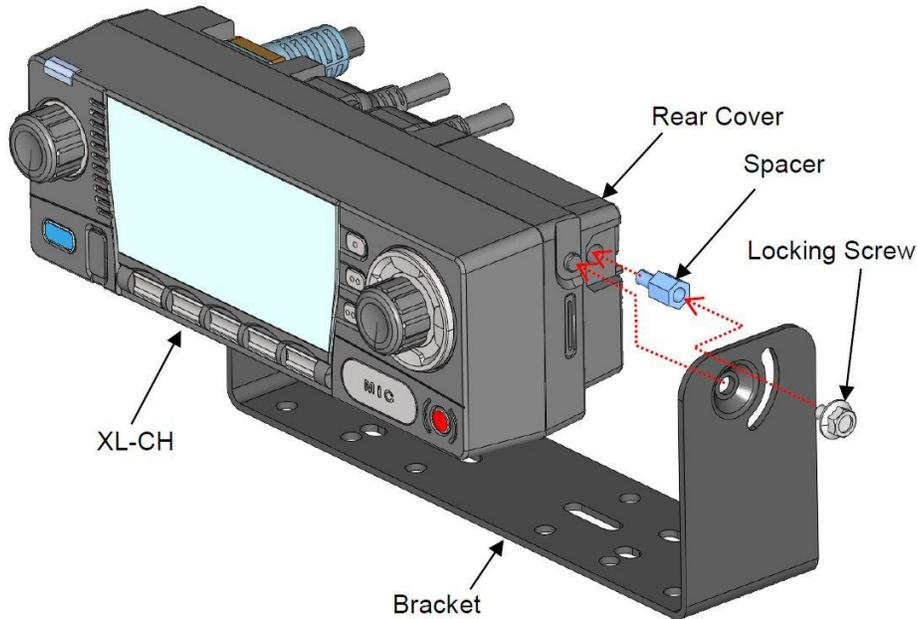

Figure 9-9: Install the XL-CH into the Bracket
- Referring to Figure 9-9, install a hex spacer on each side of the XL-CH and torque to 5.85 Nm. Slide the XL-CH into the bracket and secure with the locking screw.